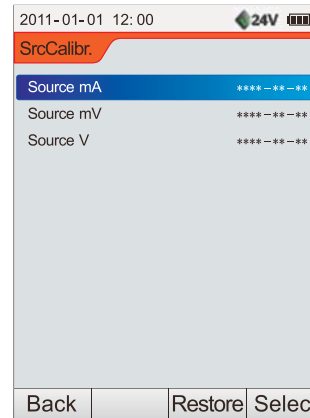

Figure 9.20 Source calibration list
- a) As Figure 9.20, user can select 22mA current in the source calibration items list by press **F4** or **Enter Hold**.